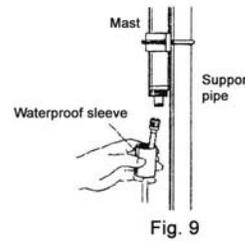

Fig. 9
- Connect coaxial cable with connector to feedpoint section at the bottom of the antenna through waterproof sleeve as shown in Fig. 9.